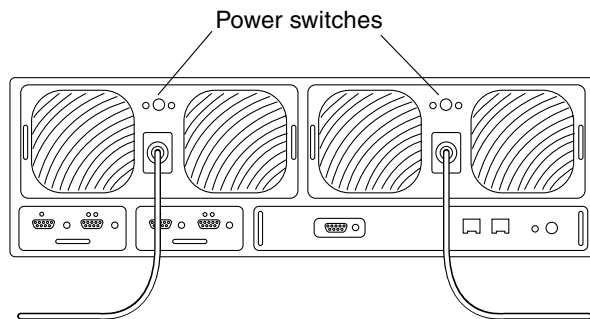

FIGURE 5-5 Power Cords Connected to the Power and Cooling Units
1. **Power off the power and cooling unit by pressing the power switch** (FIGURE 5-5). Make sure that the AC LED is amber and the PS LED is off.
3. **Disconnect the power cord from the power and cooling unit connector by squeezing both sides of the connector and pulling it straight out** (FIGURE 5-5).